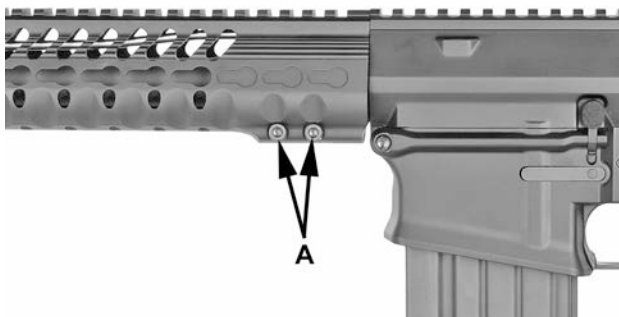

Figure 47
2. Remove two socket head screws (A). See figure 47.
4. Install handguard, spacers (B) and screws (A). See figure 47 and 48.
5. Tighten screws (A).